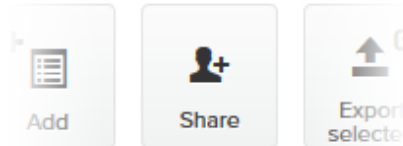

Figure 62. Plug-ins web page (Share button)
4. Click the **Share** button in the upper left-hand corner of the **Plug-ins** web page (**Figure 62 (page 111)**).